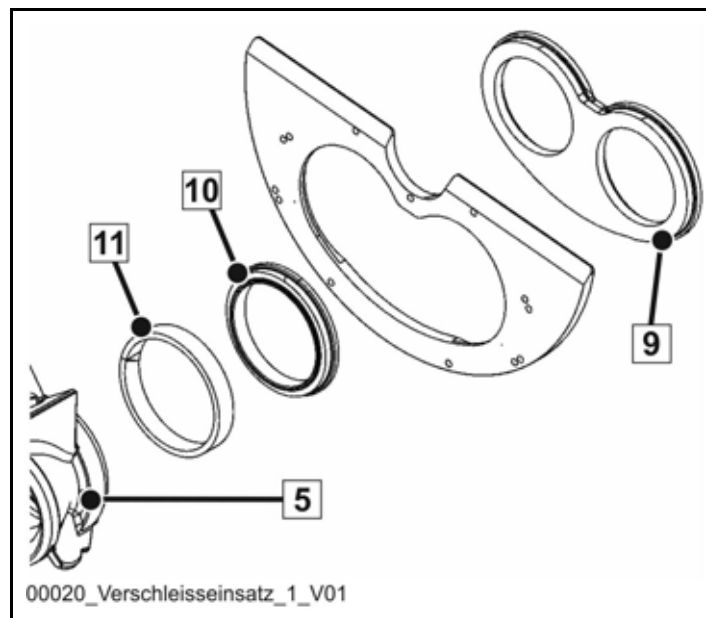

Fig. 311
A one-piece wearing insert (9) (Fig. 311) made of white cast iron is used as standard.